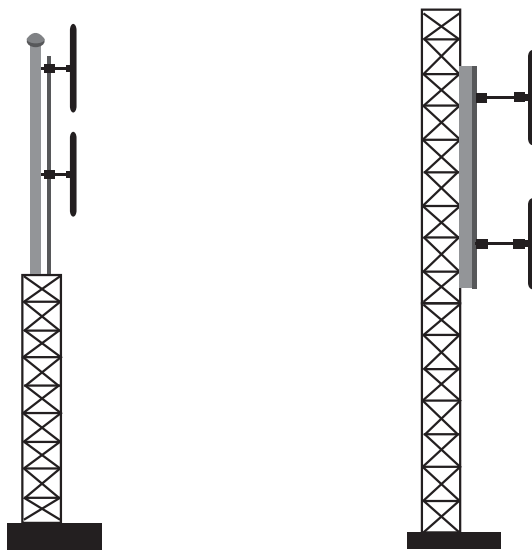

Figure 25.3: (A) Pole-mounted antenna (B) Side-mounted antenna
An antenna can be mounted on the top of the tower or side of a tower section, as illustrated in Figure 25.3.
Figure 25.3 (A) shows the mounting arrangement of an antenna on the top of the tower. In this arrangement, two dipoles are mounted on a pole, which is fixed on the top of the tower. The thickness of the pole is smaller than the size of a cross section of the tower. In this case, the horizontal radiation pattern is nearly omnidirectional. Figure 25.3 (B) shows an antenna mounted on the side of the tower. In this case too, the dipoles are mounted on a pole (called supporting structure) and the pole is clamped to the tower at a suitable distance. Even though the size of the supporting structure section is chosen to be much less as compared to the size of the supporting tower, the radiation pattern gets some directivity (pattern gets elongated due to more signal strength) in a particular direction due to presence of reflecting surface of the tower section. The type of mounting can be decided based upon the conditions existing at the site. Irrespective of the mounting, the most commonly used antenna in CR stations is described below.